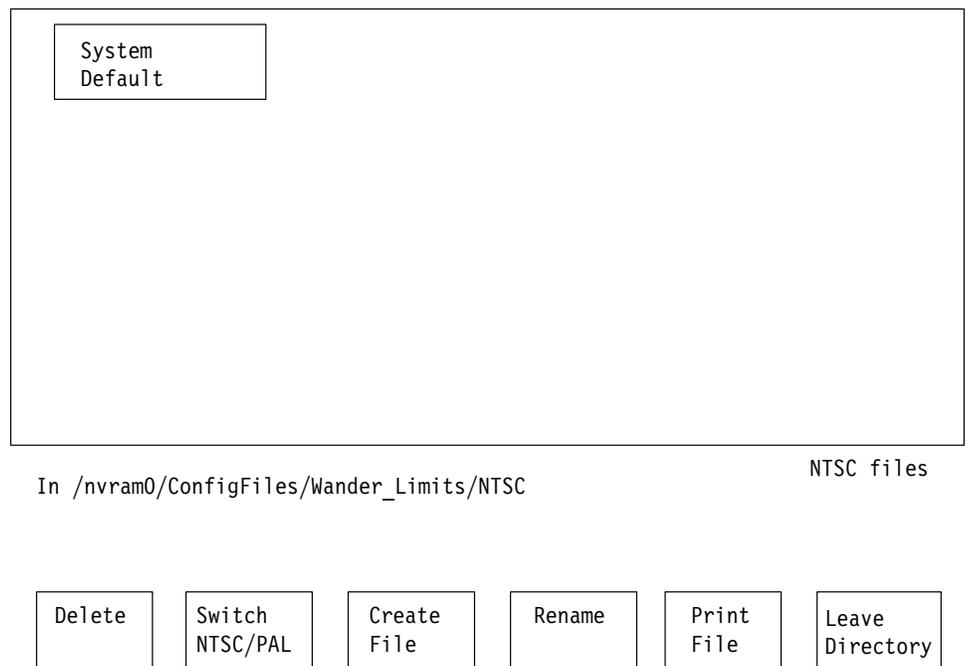

Figure 2: Typical configuration file display
- d. Touch the **Wander** soft key. The screen displays the System Default file and any user-created files that have been created. See Figure 2.
Touch the **Configure Files** soft key, then use the front-panel knob to scroll through the window to locate the Wander soft key. Touch the **Wander** soft key to display the Wander-measurement System Default configuration file and any other Wander-measurement configuration files that have been created. See Figure 2.
- f. Touch the **Update & Exit** soft key, and then touch **Leave Directory** to return to the main level of the Configuration mode. See Figure 2.
- a. In the Wander-measurement configuration files directory, touch the **Delete** soft key. See Figure 2. The query line (the top line of the display) asks you to select a file to be deleted.